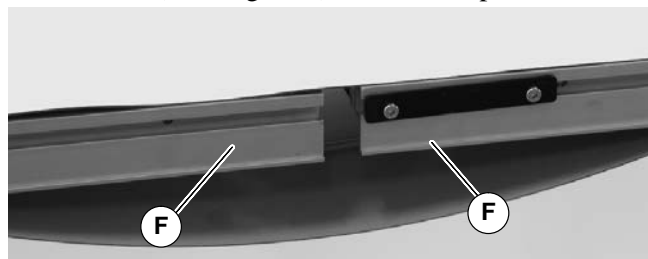

Figure 4
3. Loosen two screws (J) on both sides of conveyor and then push tail assembly (H) inward.
4. Roll out conveyor belt and place conveyor frame sections (F of Figure 4) into belt loop.